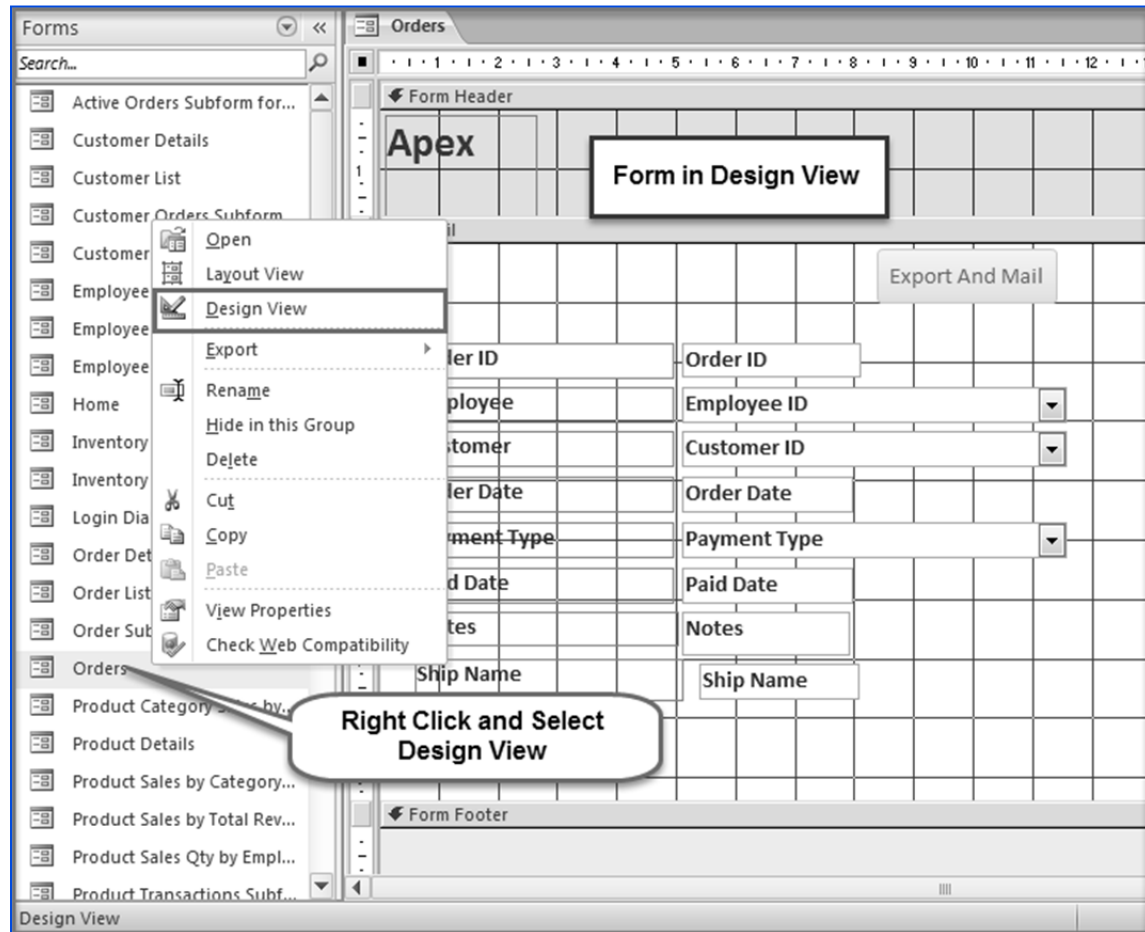

Fig. 4.2.19: Open form *frmOrders* in Design View
1. Open the *frmOrders* form in *Design* view. To do this, right-click the *frmOrders* form under the *All Access Objects* tab and select *Design View* from the list. The form opens in *Design View*, as shown in Fig. 4.2.19.